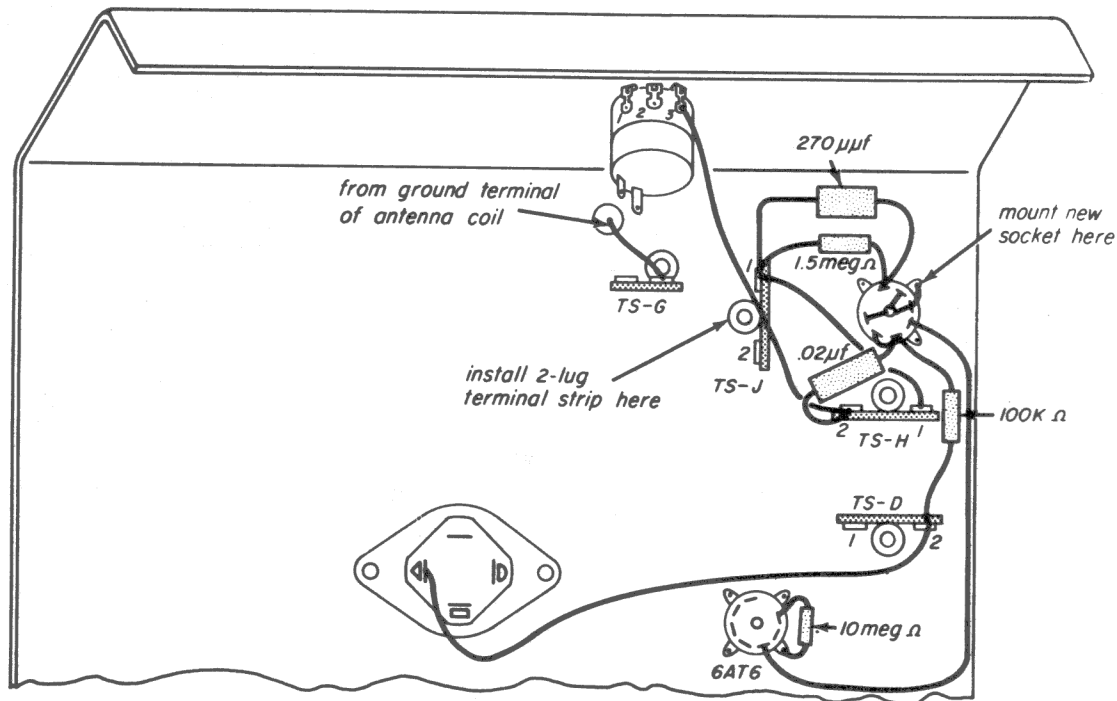

Fig. 27-8
Step 5. Connect the 10-megohm resistor from pin 1 of the 6AT6 socket to the ground lug near pin 3 of that socket, as shown in Fig. 27-8.
Step 7. Permanently connect together and solder pins 2 and 3 and the center post, all on the 6BA6 socket, to the ground lug near pin 3 of this socket as shown in Fig. 27-8.